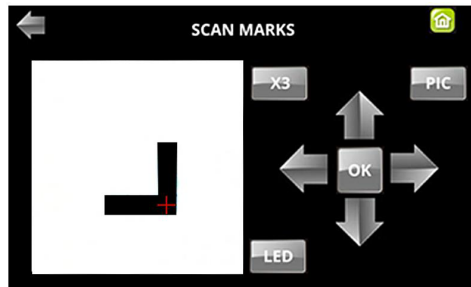

Fig. 3.2.9
- As the camera scans each registration mark, the LCD display will show the mark being scanned. If, for any reason, the cutter fails to scan a particular mark, the camera display will show how far off-center the alignment is. At that point, you can use the arrow keys to adjust the camera to align over the corner of the mark and complete the scan (FIG. 3.2.9).
5. As the camera scans each registration mark, the LCD display will show the mark being scanned. If, for any reason, the cutter fails to scan a particular mark, the camera display will show how far off-center the alignment is. At that point, you can use the arrow keys to adjust the camera to align over the corner of the mark and complete the scan (FIG. 3.2.9).